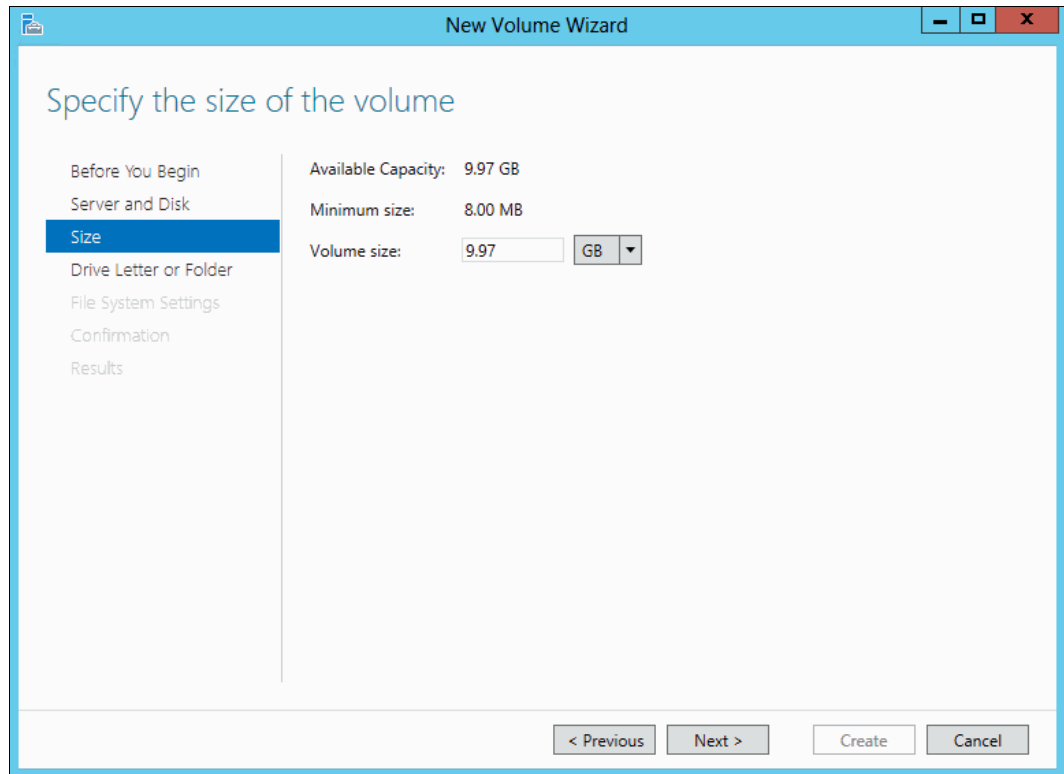

Figure 5-39 Choosing the volume size
- The next step is to choose the size of the volume, as shown in Figure 5-39. Set the volume size and click **Next** to continue.